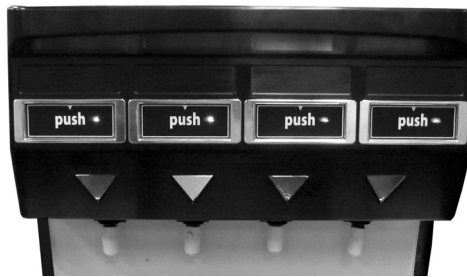

Figure 11. Dispense Buttons
2. Close the door. Depress and hold the dispense button (Figure 11) until clear water flows from the dispense nozzle.